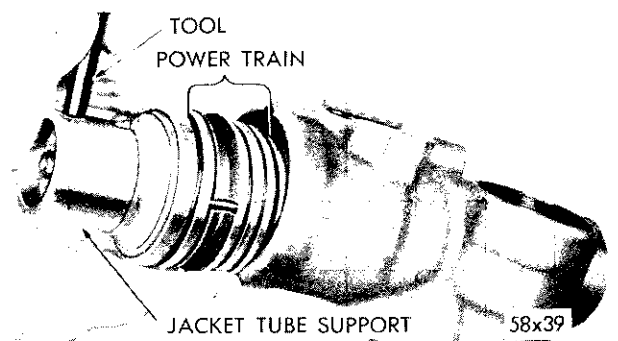

Fig. 28—Removing or Installing Power Train
(9) Firmly install a suitable drift through the hole in the jacket support to engage the groove in the worm shaft, thereby locking these two parts together (Fig. 28).
(10) While holding the drift, pry on the piston teeth with a screwdriver using the gear shaft as a fulcrum and remove the complete power train.